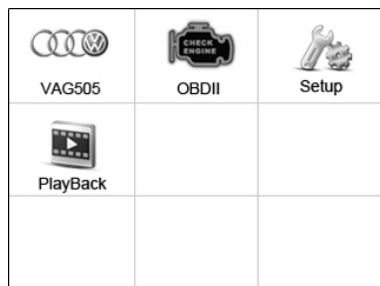

Figure 3.1
- 4) Power up the scan tool, and wait for the **Main Screen** to appear.(Figure 3.1)
- 1) Use the **UP/DOWN** scroll button and **LEFT/RIGHT** scroll button to select **Playback** from **Main Screen** (Figure 3.1), and press the **OK** button. Wait for the **Review data** screen to appear.
- 5) Turn on the scan tool. Select **OBDII** from the **Main Screen**. (Figure 3.1)